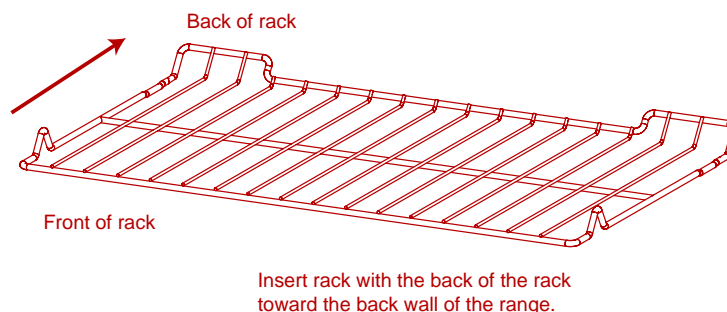

Figure 3: Inserting a Rack
4. Push top rack the rest of the way in (See Figure 3).